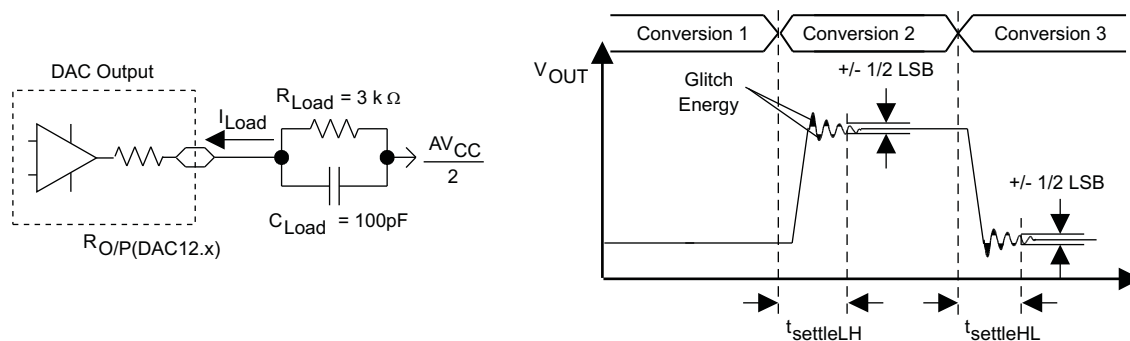
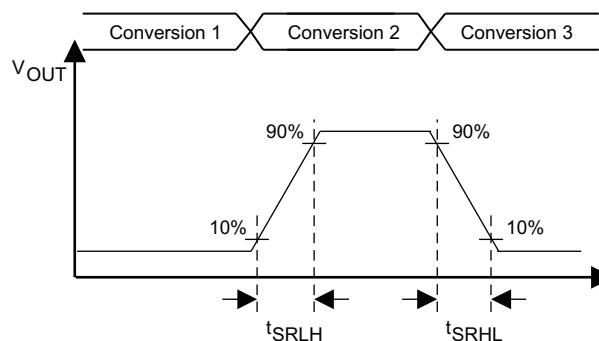

Figure 5-30. Settling Time and Glitch Energy Testing
Figure 5-31. Slew Rate Testing
$V_{ref} = V_{CC}$ , DAC12IR = 1, over recommended ranges of supply voltage and operating free-air temperature (unless otherwise noted) (see Figure 5-30 and Figure 5-31)
| $t_{ON}$ DAC12 on time                   | DAC12_xDAT = 800h,Error $_{V(O)}$ < $\pm 0.5$ LSB (1)(see Figure 5-30)                | 2.2 V, 3 V | 60   | 120  |     | $\mu s$    |
(1)  $R_{Load}$  and  $C_{Load}$  connected to  $AV_{SS}$  (not  $AV_{CC}/2$ ) in Figure 5-30.
(2) Slew rate applies to output voltage steps  $\geq 200$  mV.